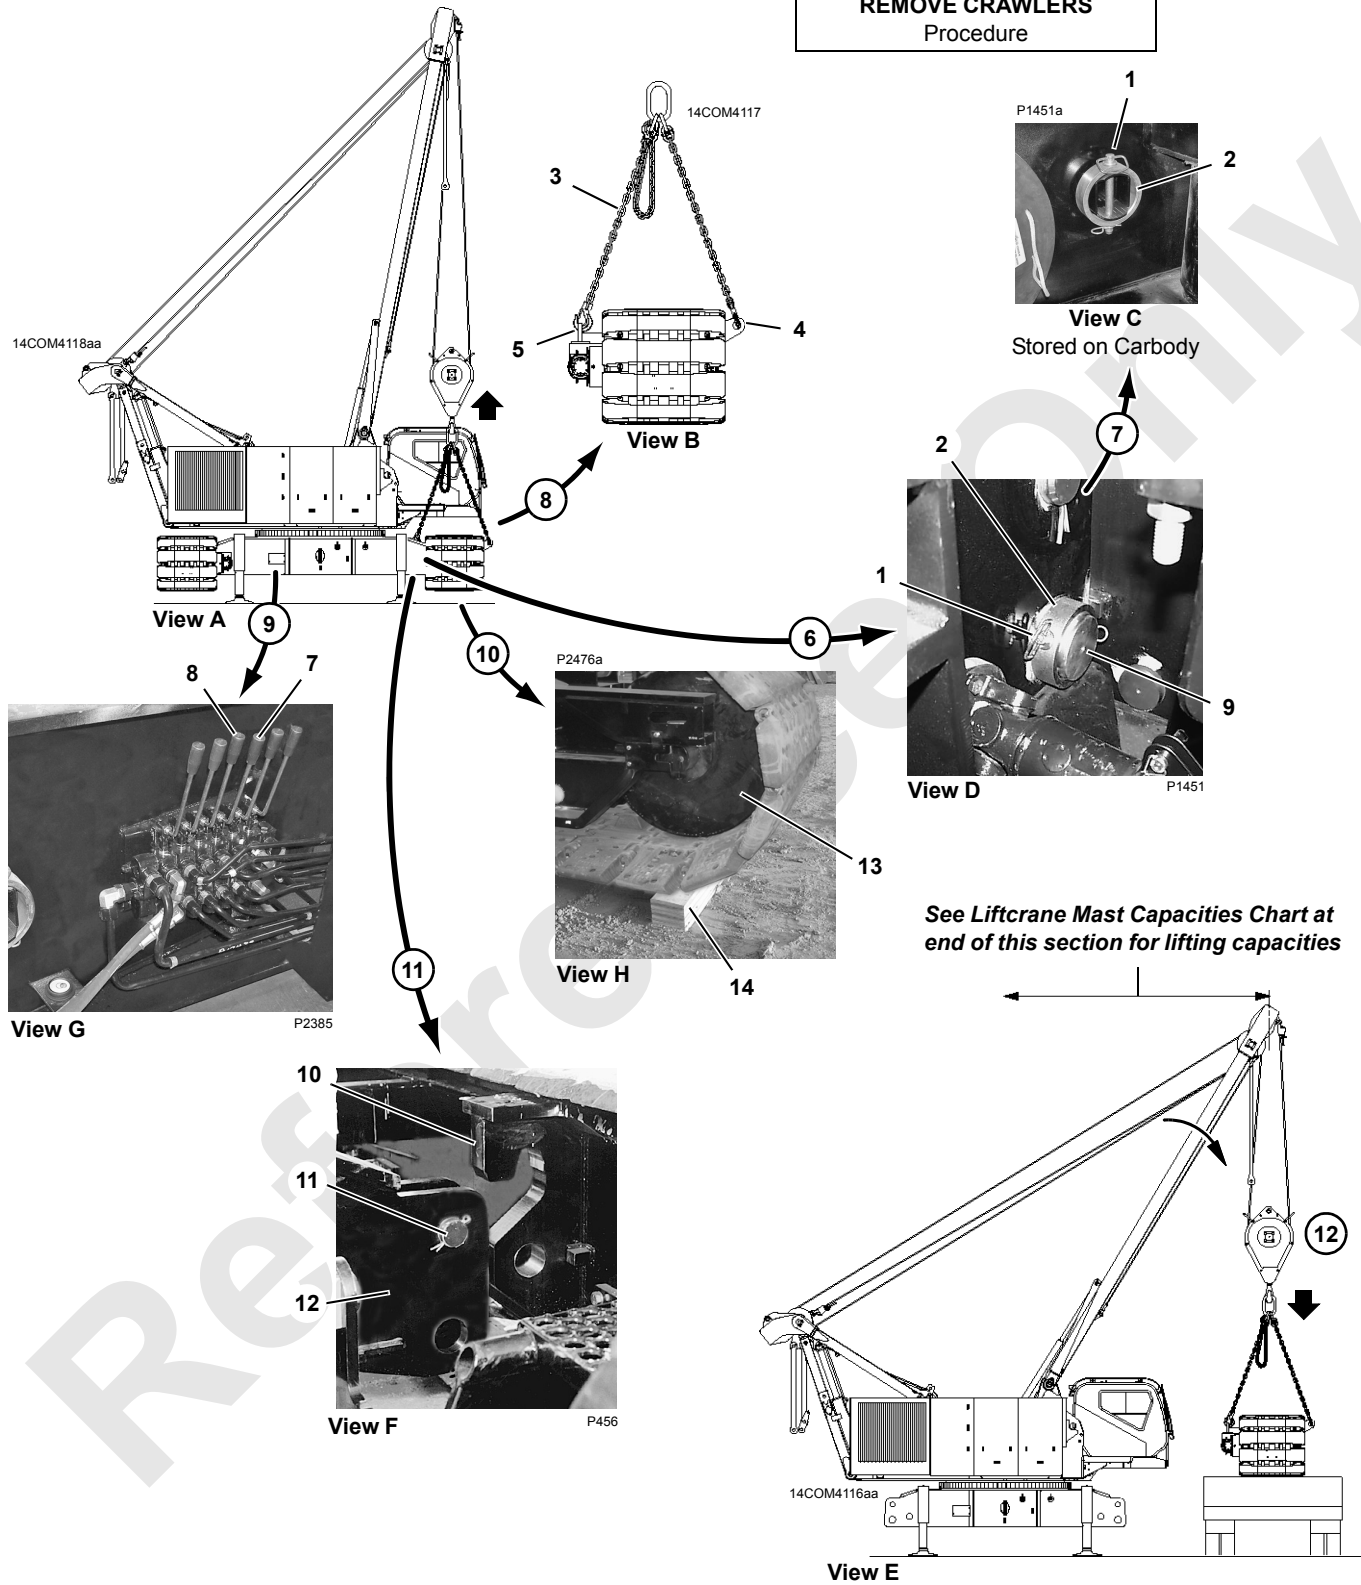

FIGURE 4-30
See Figure 4-8 and Figure 4-27 through Figure 4-30 for the following procedure.
6. Remove hitch pin (1, View D, Figure 4-30) and collar (2) from all four connecting pins.
8. Attach three hooks from chain sling (3, View B) to lifting links (4) on outboard side of desired crawler and to lifting lug (5) on inboard side of crawler.
Legend for Figure 4-30